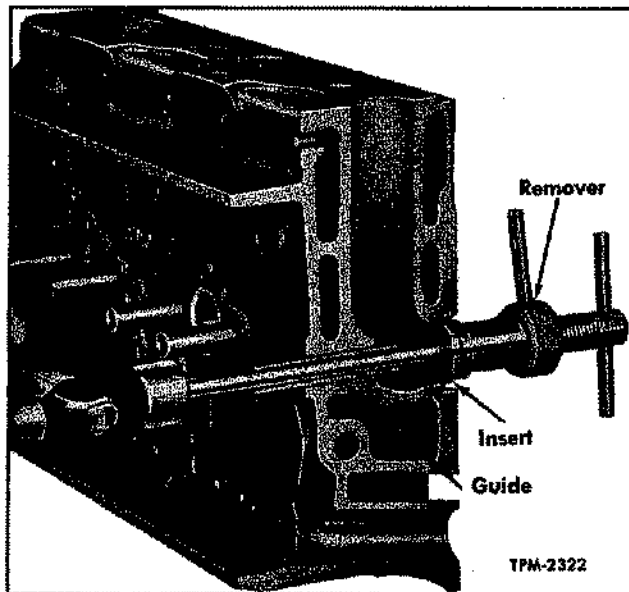

Figure 74—Removing Valve Seat Insert from Cylinder Head
1. Place cylinder head on bench, and insert the collet inside of valve insert so that lip at bottom of collet flange is flush with bottom side of valve insert. While holding collet in this position, expand same by turning screw handle. Be sure that flange of collet firmly engages bottom of valve insert. Refer to figure 74.